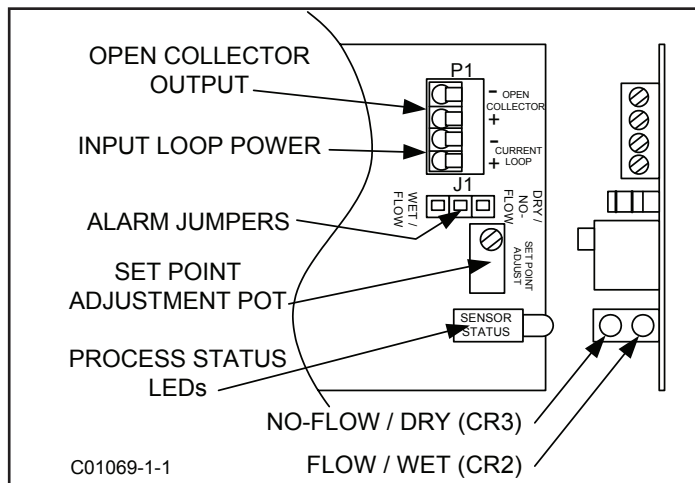

Figure 13 Loop Power Control Circuit
2. With the enclosure cover removed, slide the control circuit out half way to expose terminal block P1, Figure 13.